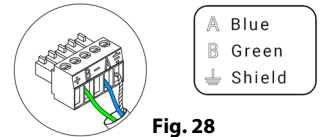

Fig. 28
It has a 5-pin terminal to connect it to the Airzone Connection Bus of the main board ⑤. Attach the wires with the terminal screws following the color code (Fig. 28).